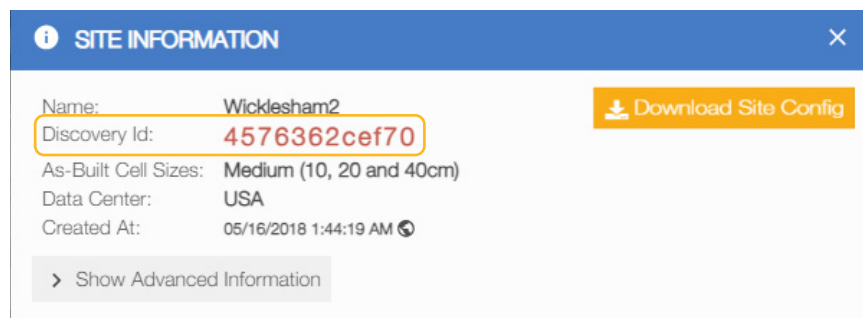

Figure 2-18: Site Information Discovery ID
1. Open the **Site** menu on the **Sitelink3D** website and select **Site Information** to open the **Site Information** dialog (Figure 2-18).